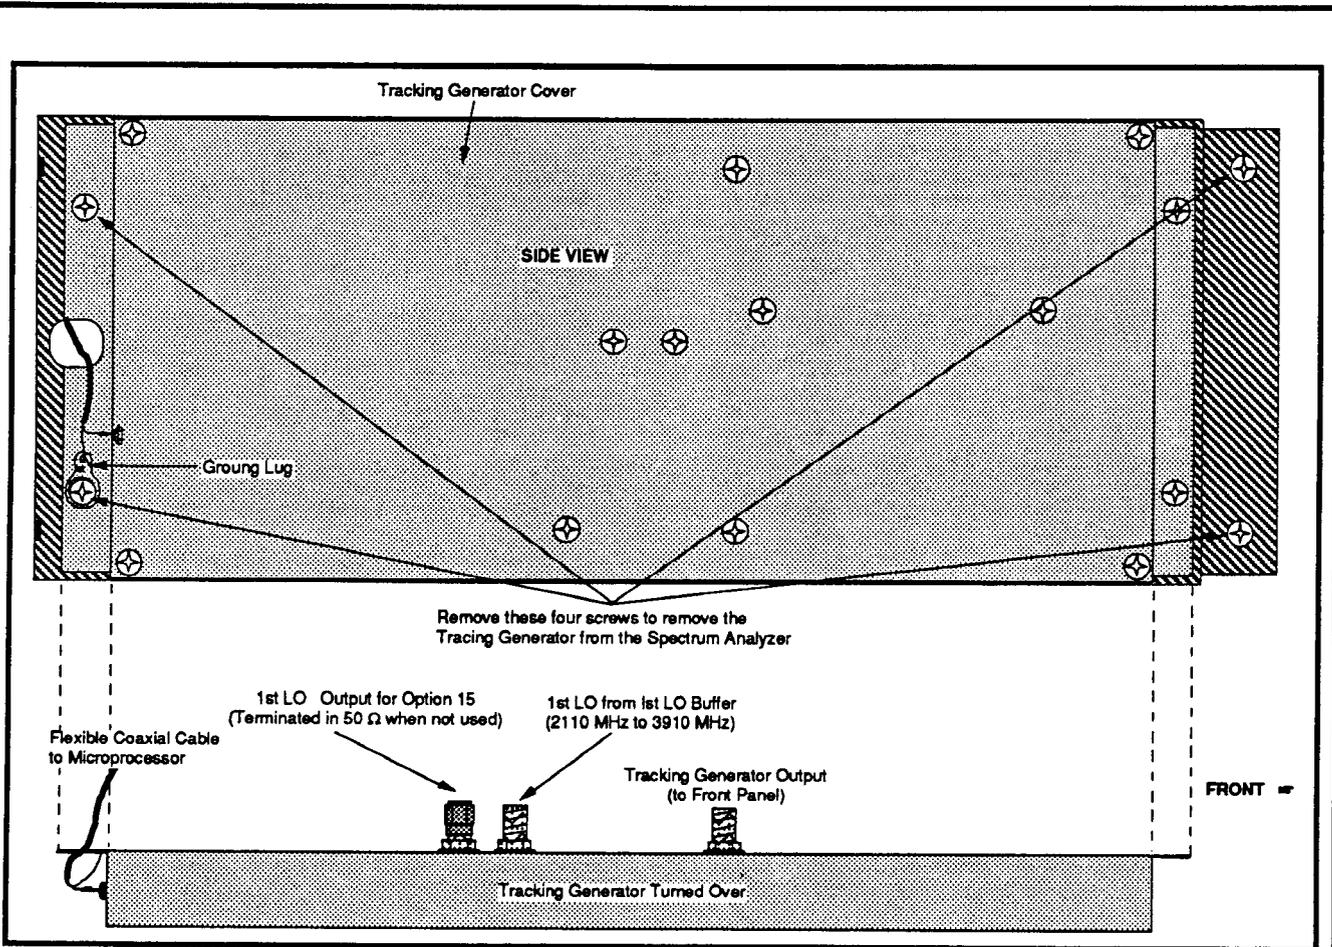

Figure 14. Removing the Tracking Generator from the Spectrum Analyzer.
- b. Remove four phillips head screws from the corners of the left side cover. See Figure 14.
i. Monitor the 1st LO output (J110) on the Isolation Amplifier board with the power meter. See Figure 14 for the location of the 1st LO output.